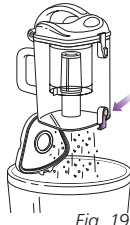

Fig. 19
- Hold the dust cup over a trash receptacle and press the bottom door release button. **(Fig. 19)** Tap gently to empty contents. Press the door shut again until it clicks.